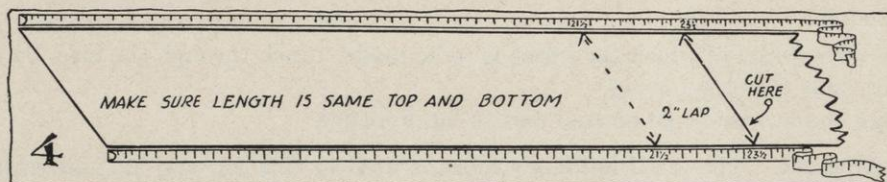

FIG. 4.
- e. Measure along both edges of the bias strip until you come to the measurement that you wrote down after reading Section 2 b, and put a pencil mark on each edge of the bias strip at exactly that point (see Figure 4).
- g. Cut on second set of pencil marks (see Figure 4).